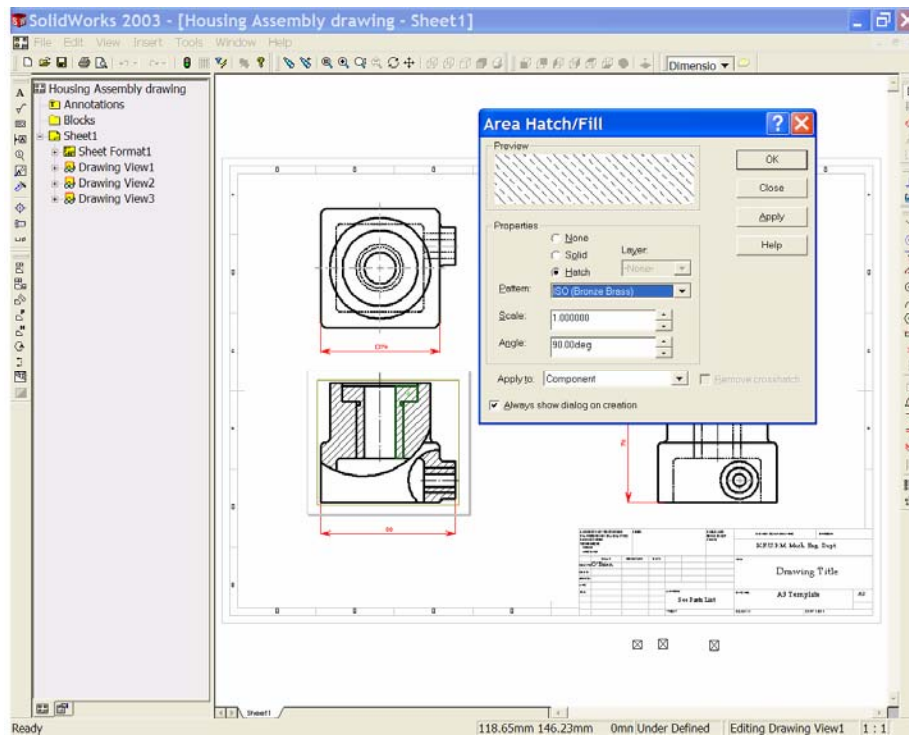

Figure 2
6. We must now edit the cross hatch pattern for the bushes. Place the cursor in the cross hatch area of the big bush, '**right click**' and select '**Properties**'. In the '**Area Hatch/Fill**' Properties box make the changes shown in Figure 2. Choose '**Apply**' to close the window.